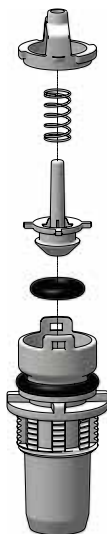

Fig. 26
- Reassemble the parts following the order and positions shown in the diagram (**Fig. 26**).